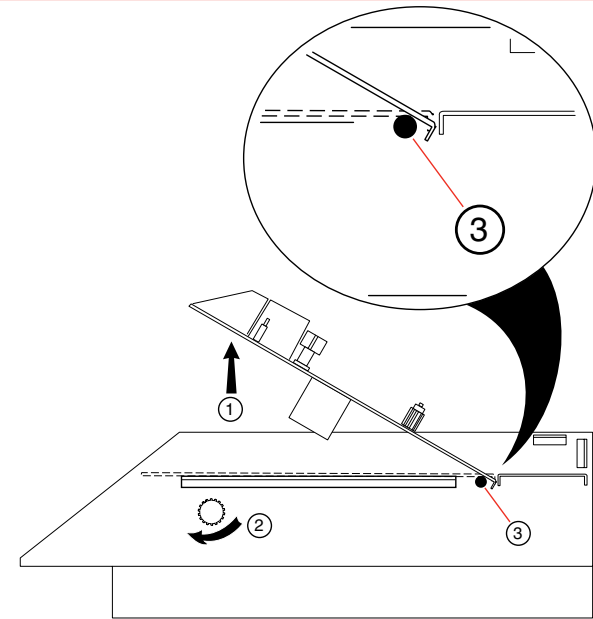

Figure 9-10: Accessing Chemcassette® Optics
See Figures 9-10 and 9-11
3. Unscrew two screws on the top panel and lift it. The panel pivots on studs as shown in Figure 9-10.